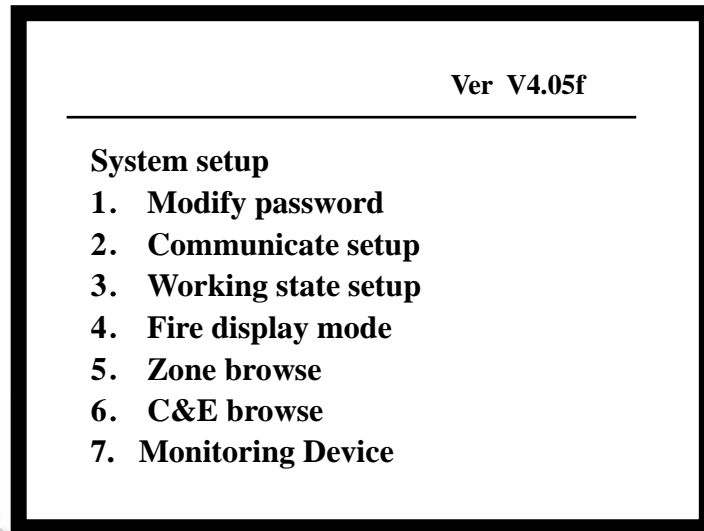

Fig. 4-12
Step 1: Pressing *SYSTEM* to enter system setting menu, as in Fig. 4-12.
Step 1: Pressing *SYSTEM* will enter system setting menu as shown in Fig. 4-12.